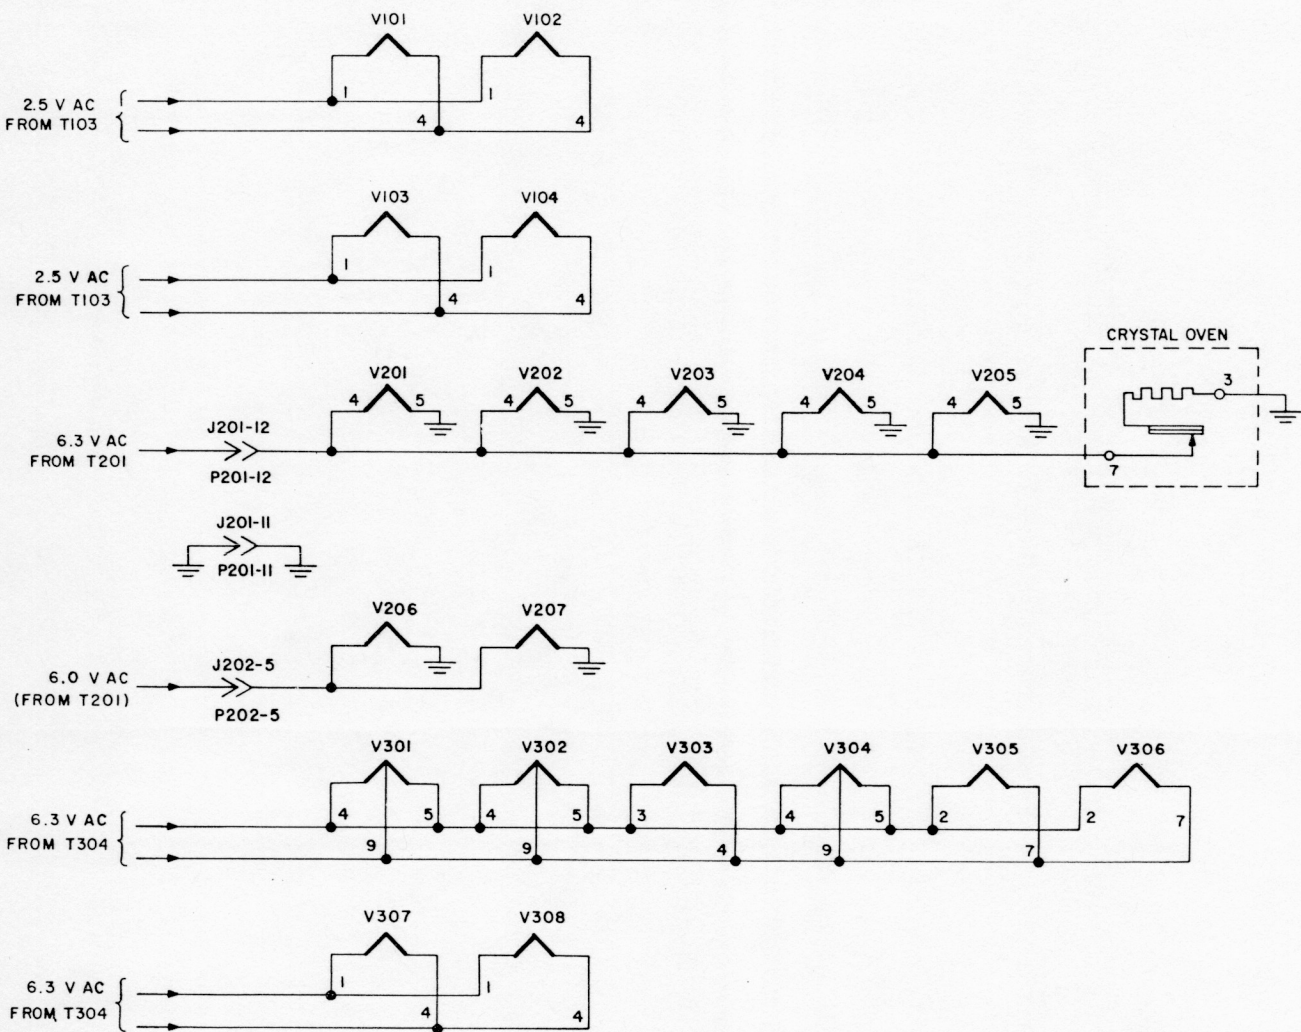

Figure 4-15. Filament Circuits, Simplified Schematic Diagram
d. FILAMENT CIRCUITS. - (Refer to figure 4-15.) The filaments of rectifiers V101 and V102 are connected in parallel across one of the 2.5 v secondary windings of transformer T103; the filaments of V103 and V104 are connected across the other 2.5 v secondary winding of that transformer. The filaments of tubes V201 through V205, and the heater element of the crystal oven, are connected in parallel across the 6.3 v secondary winding of T201. The filaments of 4x250Bs, V206 and V207 are connected in parallel across the 6.0 v secondary winding of T201. The filaments of tubes V301 through V306 are connected in parallel across one of the 6.3 v secondary windings of T304 while those of V307 and V308 are connected across the other 6.3 v secondary winding of that transformer.